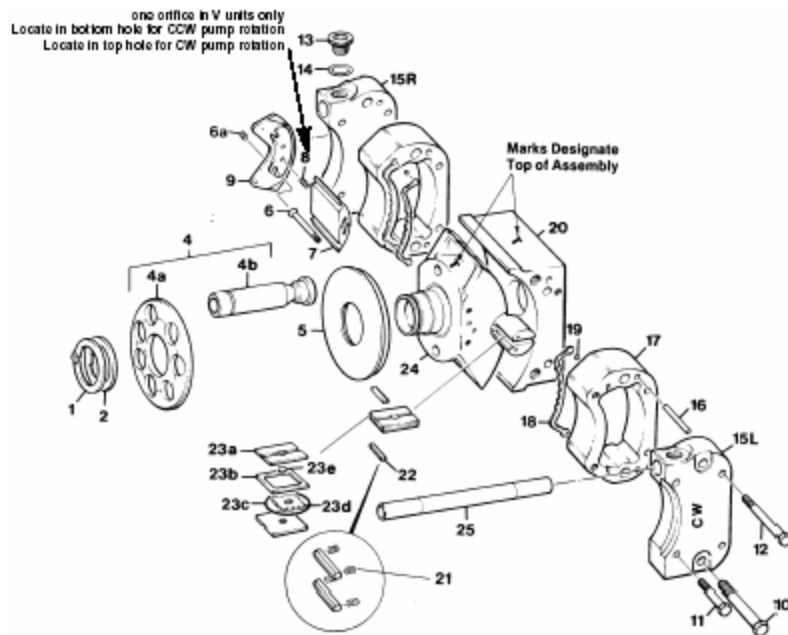

Figure 3
## PARTS LIST FOR FIGURE 3
items 6 through 24, figure 3
item 4 figure 3
**See Figure 3.** Position the cradle (20) on a clean flat surface with the large flat area down.
Install assembled cartridge in slot in cam as indicated in figure 3. Repeat on opposite side of cam.
For "P" and "D" units, install two orifice screws (8) in the servo stem (7). For "V" units, install one orifice, as indicated in Figure 3.